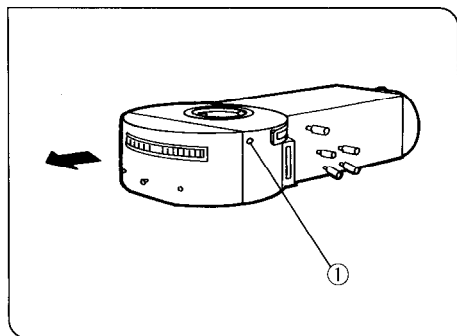
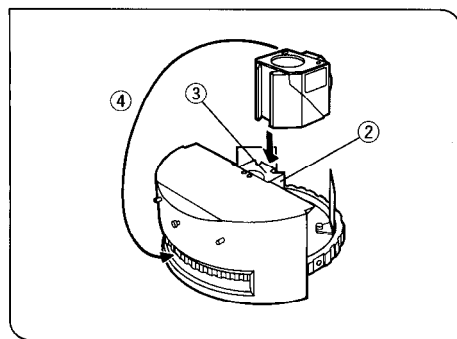

Fig. 1
Fig. 2
(Figs. 1, 2, 3)
1. Using the Allen screwdriver provided with the microscope, loosen the clamping screw ① at the right side of the vertical illuminator. (Fig. 1)
2. Pull out the turret in the direction indicated by the arrow, then invert the turret so that the cube dovetail mounts ② point upward. (Dummy plates are mounted in three of the four cube positions. When you wish to use only one cube, mount it in the empty position. When using two or more cubes, loosen the clamping screw ③ and remove the dummy plate(s) by pulling in the direction indicated by the arrow, and then mount the actual cube(s) instead.)
3. Hold the cube to be mounted with the index side facing upward and slide it all the way onto the dovetail mount. Then tighten the cube clamping screw ③ immediately. (Tighten all four cube clamping screws.)
4. Remove the cube's magnetic index sticker ④* and affix it to the turret. (Fig. 2)
(Fig. 1)